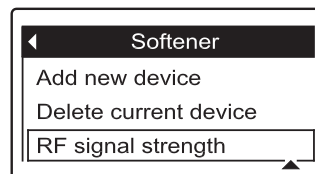

FIG. 100
2. Press the remote's SELECT (O) button to display the device menu.
3. Press the DOWN (▼) button to scroll through the menu options until **RF signal strength** is highlighted in a box (See Figure 100).